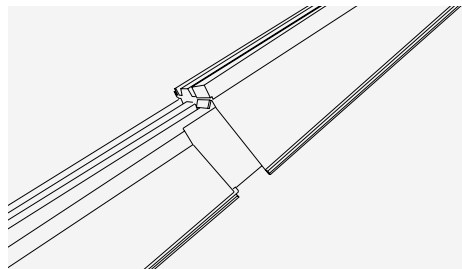

Fig. 9 – Slide verge units upwards
- 10 Successive dry verge units are interlocked together by sliding upwards against unit below, ensuring that lugs on outside of verge unit fit into internal locating slots (Fig. 9).